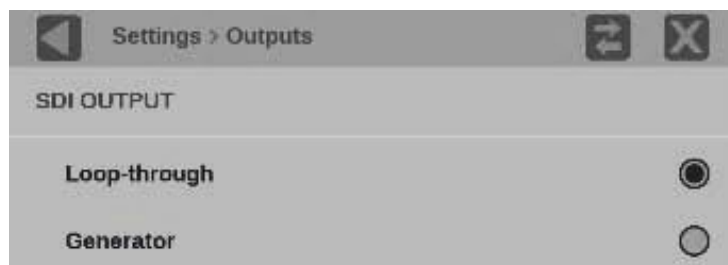

Figure 61: SDI output configuration
3. Set the SDI output to **Loop-through** or **Generator**. (See Figure 61.)